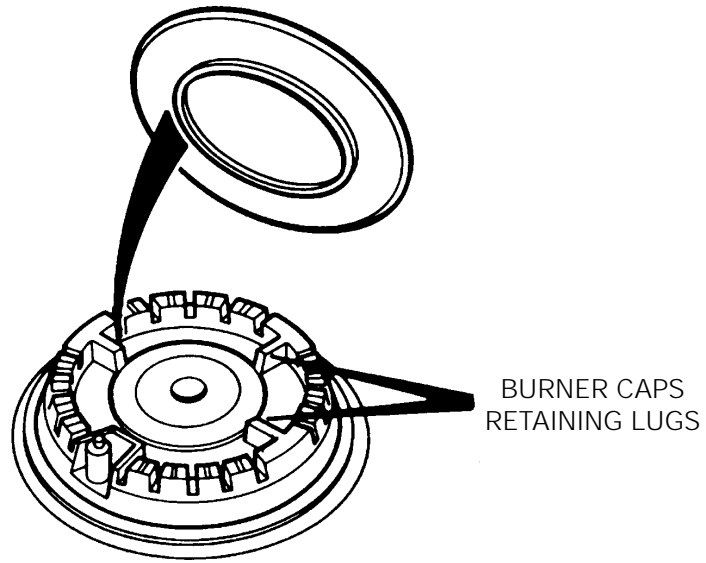

Fig 19A
- ❑ After cleaning, be sure all parts are dry. When fitting the burner cap and burner head, make sure that the hole in the burner head is correctly located over the ignition electrode (See Fig. 19A, 19B, 19C), and that the burner cap is sitting correctly on the burner head.